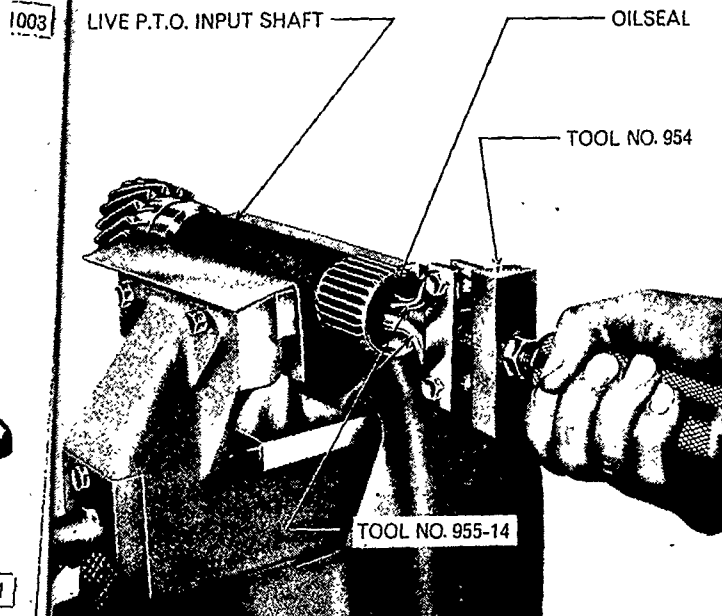

Figure 9
- f. If necessary, remove the front oil seal and needle roller bearing from the Live P.T.O. input shaft, withdrawing seal and bearing in one operation, using Tools Nos. 954 and 955-14, Figure 9.